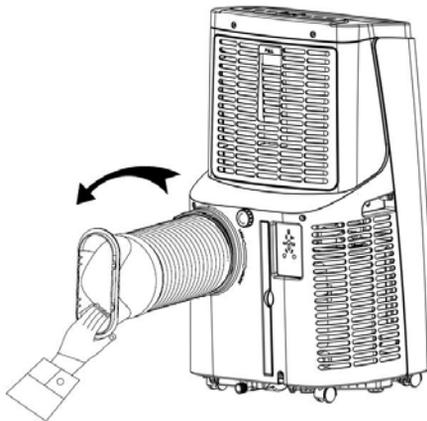

FIGURE 1
1. Install the heat pipe assembly (as shown in Fig.1)
- Insert the heat pipe assembly (the end of the exhaust joint) into the back panel vent slot (push to the left) and complete the assembly (as shown in figure 1).